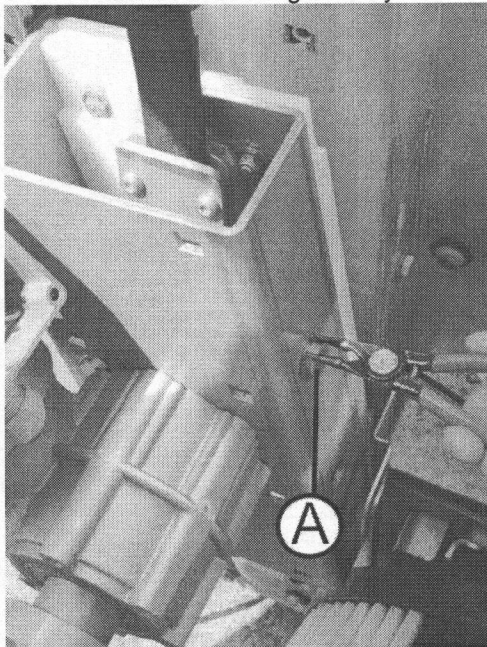

Fig. 059
3. Loosen both lifting belts by removing the stud (A) (Fig. 059).